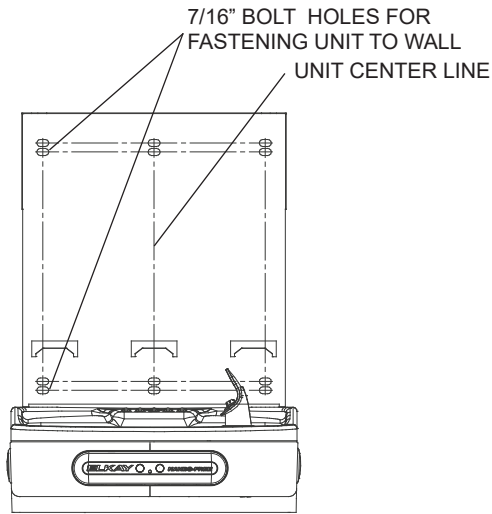
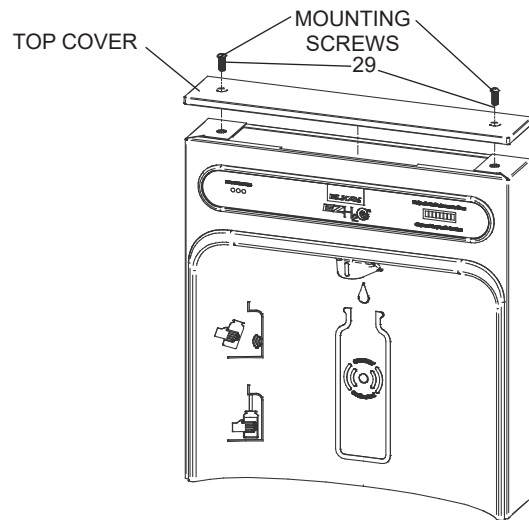
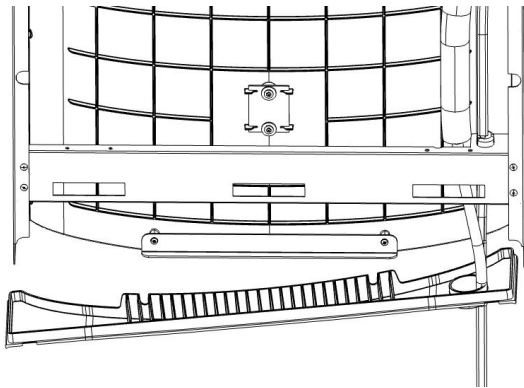

Fig. 5
Fig. 6
Fig. 7
- 1) **Remove two (2) mounting screws** with 5/32" Allen wrench holding top cover to Bottle Filler (See Fig. 6). Remove top cover. Note do not discard mounting screws, they will be needed to reinstall top cover.
- 2) **Remove wall mounting plate** from Bottle Filler. Place wall plate against wall on top of basin. Center the wall plate side to side with the basin. Mark the six (6) mounting holes with a pencil.
- 4) **Install wall mounting plate** to wall using six (6) 7/16" obround mounting holes (mounting bolts not included) (See Fig. 5). Use appropriate fasteners for your wall type.
- 7) **Feed power cord & 3/8" water line** through hole in tower/basin gasket (See Fig. 7).
- 8) **Once Bottle Filler is installed** on wall plate tabs, water line, wire(s) and power cord are installed properly, push top of Bottle Filler toward wall and line up top cover two (2) holes.
- 9) **Reinstall Top Cover on Bottle Filler** (See Fig. 6) with two mounting screws from step 1 above. Caution, do not over tighten screws.